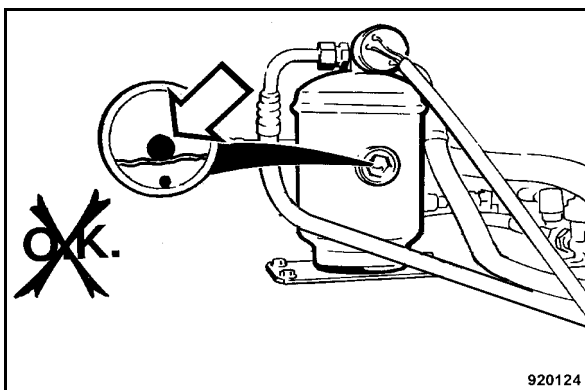

Fig. 148
- If the white float (Fig. 148) inside the inspection glass of the drier/collector unit floats at the bottom, inform the service department.